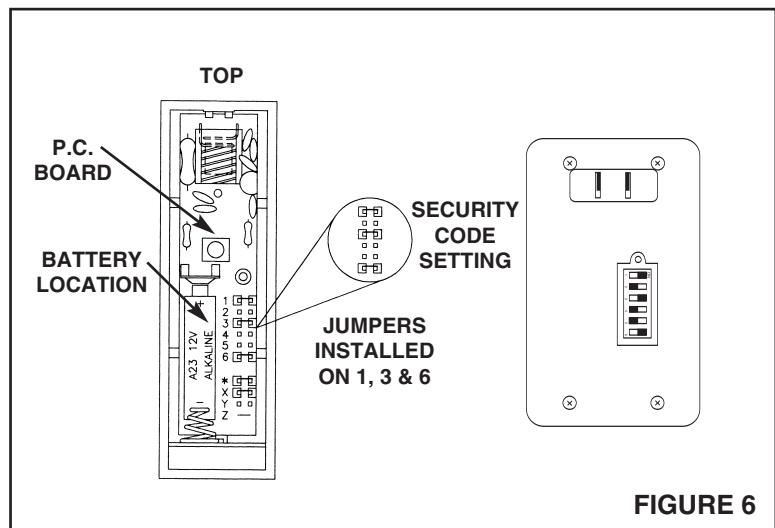

FIGURE 6
2. Refer to Figure 6. Set the switch in the Receiver to match the jumpers in the Transmitter. The jumpers that are installed in the Transmitter must correspond to the switched set to the ON position in the Receiver. For example, if jumper #1 is installed, Switch #1 is in the ON position.